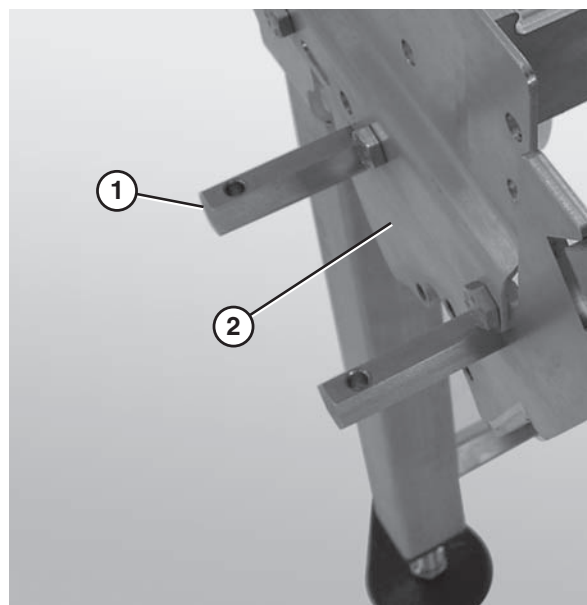

Figure 16
1. Attach the gear reducer mounting posts (Figure 16, item 1) to the nose bar side plate (Figure 16, item 2).